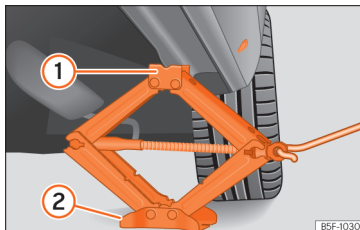

Fig. 79 Crossbar: mounting the jack on the vehicle.
- Turn the jack* crank handle, located below the strut support point, to raise it until the tab ① »» Fig. 79 is below the housing provided.
- Align the jack* so that tab ① “grips” onto the housing provided on the strut and the mobile base ② is resting on the ground. The base plate ② should fall vertically with respect to the support point ①.